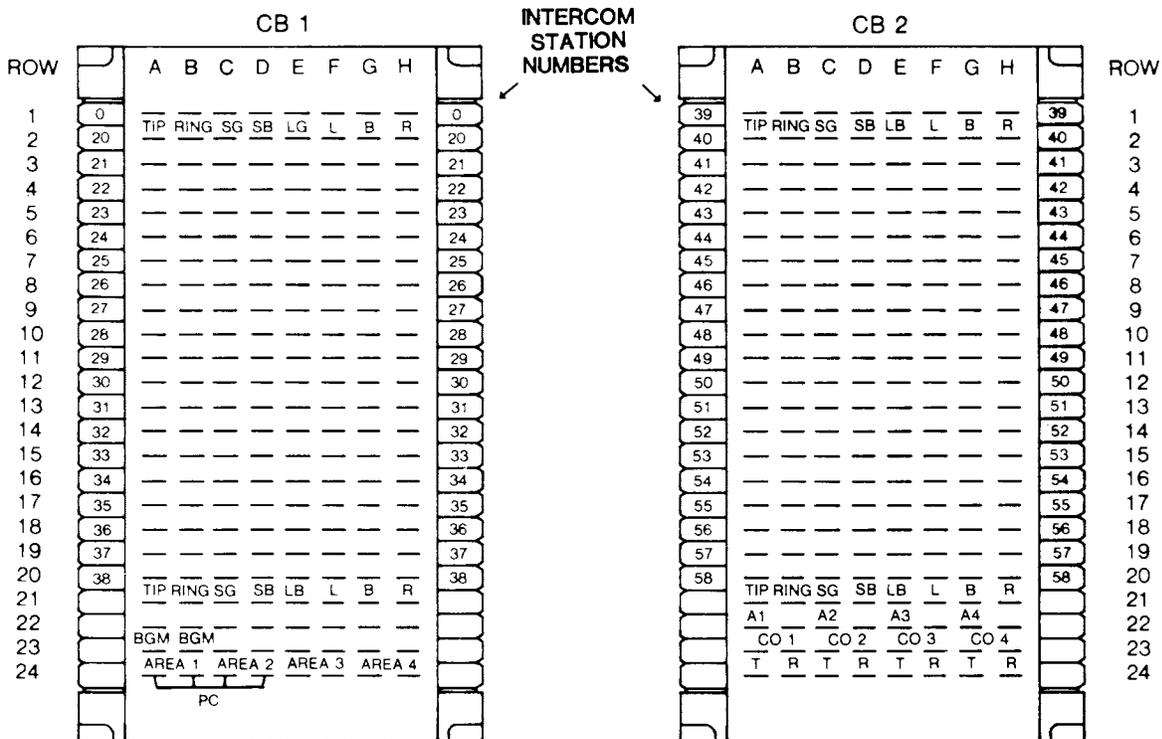

Figure 3—Station and Terminal Assignments of KL-30 Connecting Blocks.
3.05 Connect wires from background music source to terminals above label BGM. See Figure 3.